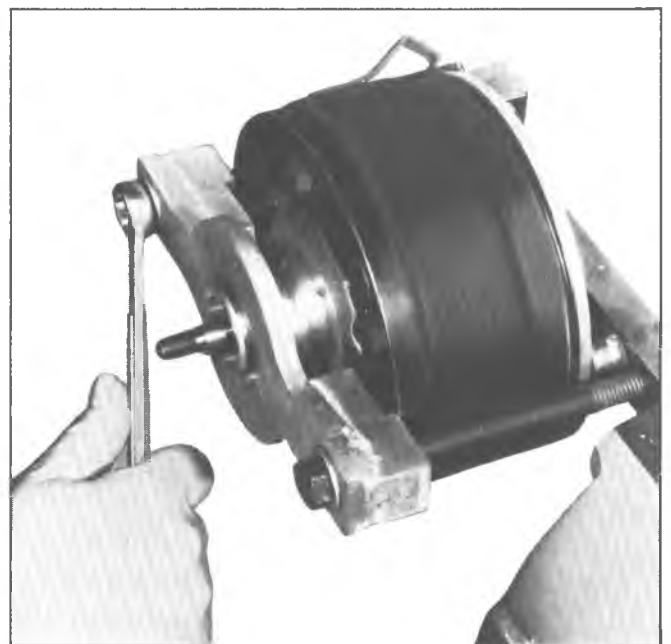

Fig. 27—Installing Shell Assembly
6. Push compressor shell as close to "O" ring (Fig. 27) as possible by hand and check for equal alignment of shell around cylinder. Tighten fixture screws finger tight.